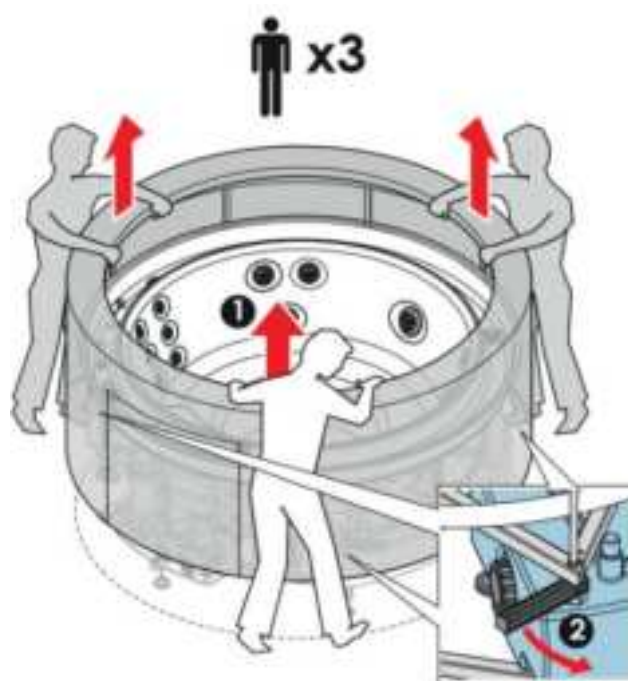

Figure 44
- 1) Grab the inner edge of the cover, positioning yourself near the feet with the rotating supports (see Figure 44).